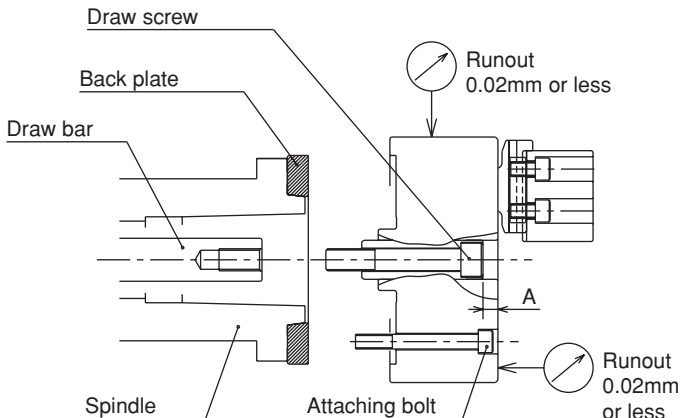

Fig. 21
- The appropriate position of the wedge plunger at the cylinder forward end is the position when the dimension A in Fig.21 becomes as shown in the table below.